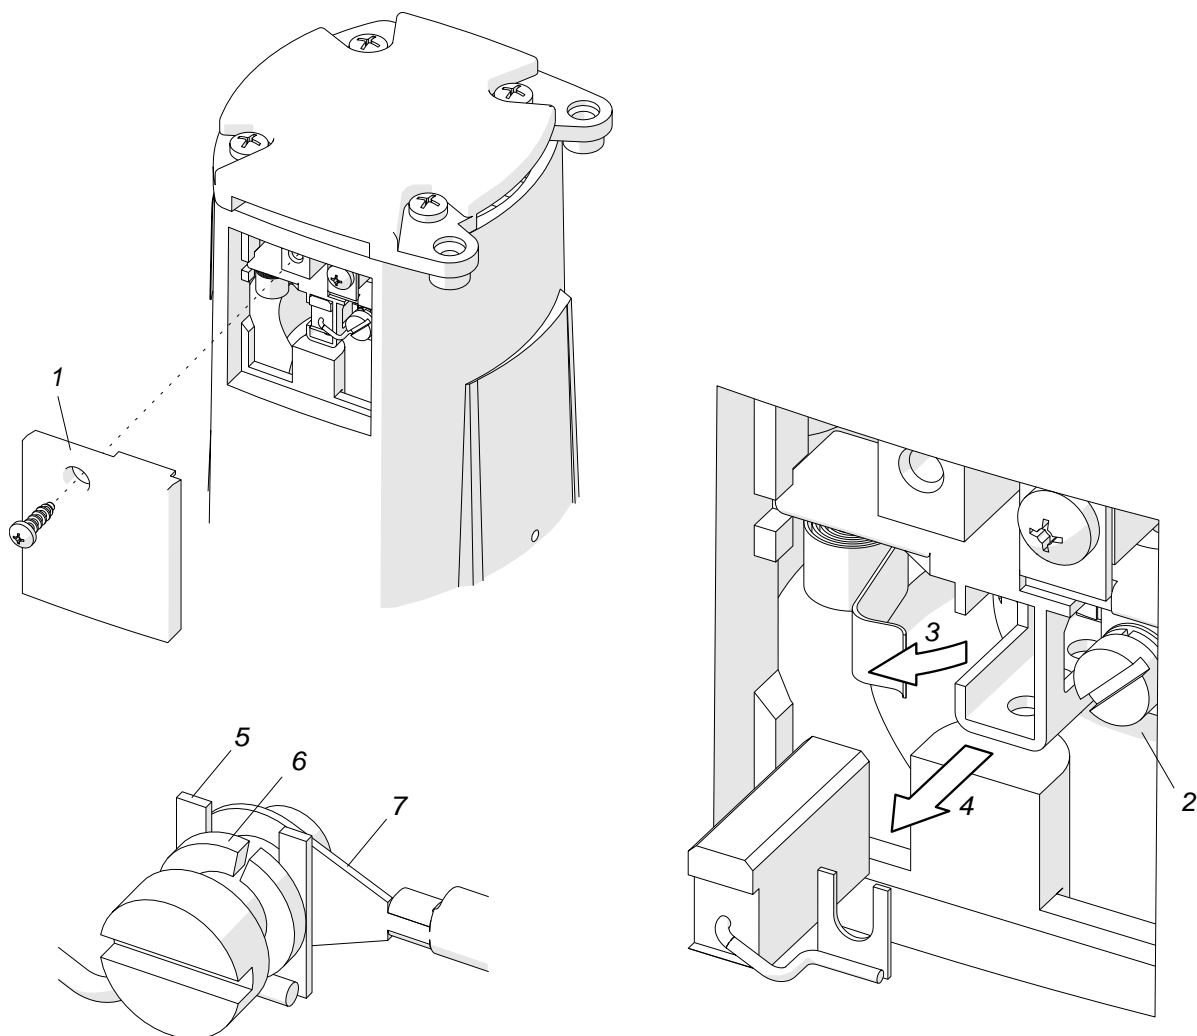

**Fig. 8.** Adjusting the gib clearance
To remove the excessive clearance, use the 8 mm combination wrench to loosen the nuts located on the side (1, Fig. 8), and then use the 2.5 mm hex wrench to loosen the set screws (2). Next, tighten the set screws (3) to such an extent that the motor moves smoothly through the entire stroke and not drops under its own weight. Then, use the 8 mm combination wrench to tighten the nuts (4), while countering the set screws using the 2.5 mm hex wrench (5).